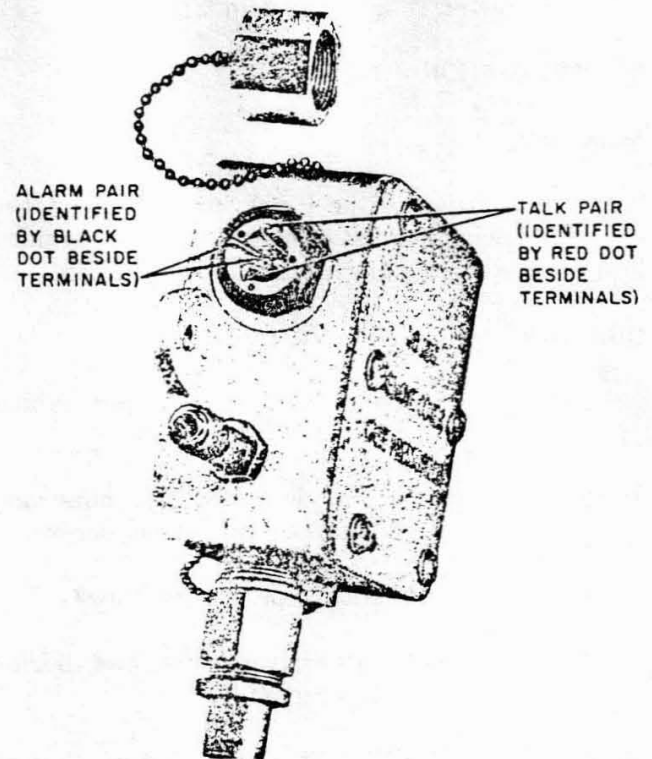

Fig. 3—Talk and Alarm Pair Identification
2.04 After installation, the talk and alarm pairs are accessible through a glass bead terminal covered by a waterproof cap. See Fig. 3 for alarm and talk pair identification.
- (1) Attach a C pressure gauge to the F pressure valve located on the contactor housing.
- (2) While watching the gauge, pressurize the contactor through the valve located on one end of the copper tubing stub to the required pressure.
- (3) Connect a volt-ohmmeter, set to read ohms, to the external alarm pair terminals (Fig. 3).
- (4) Slowly turn the adjustment screw clockwise until the meter indicates zero resistance (closed circuit). At this point, reverse adjustment screw rotation until the meter *just* indicates infinite resistance (open circuit).
- (5) The contactor now is set to operate at the pressure indicated on the C pressure gauge.